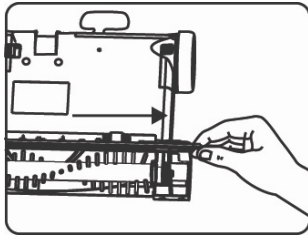

Fig. 15
6. Pull the brush bar out from the bushing and slip off the belt to remove the brush bar. (Fig. 15)
7. Insert the new brush bar by first inserting the brush bar into the bushing on the end opposite the driver belt (Fig. 15)